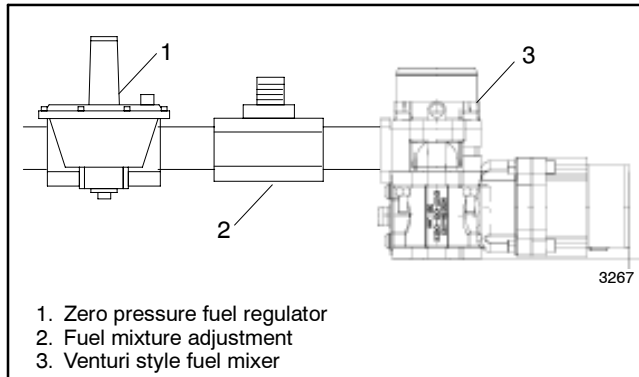
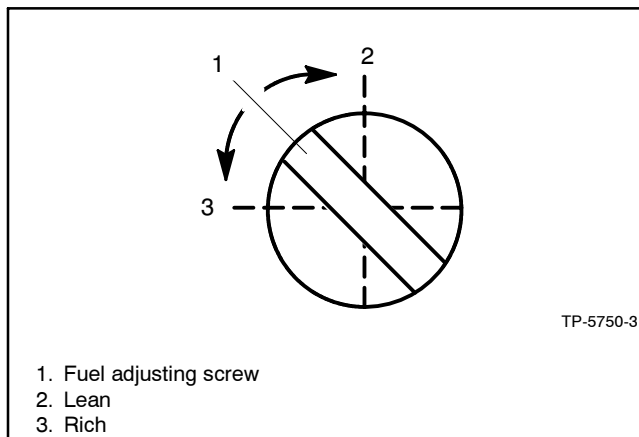
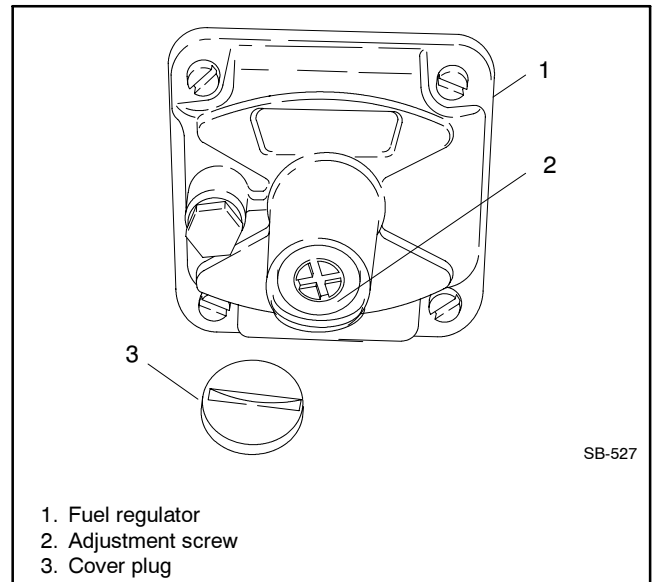

Figure 6 30-60 kW with Venturi Style Fuel Mixer
Figure 7 Fuel Mixture Adjustment, Typical
Figure 8 Fuel Regulator, Typical
- 5.1 **30-60 kW generator sets.** Venturi style fuel mixer used with an integrated throttle body governor on 4.3 L, 5.0 L, and 5.7 L GM engines. Also similar to the IMPCO model 100 used on the 30 kW with 3.0 L GM engine. See Figure 6.
- 5.1.4 Adjust the fuel mixture adjustment (see Figure 6 and Figure 7) to obtain a full-load oxygen sensor voltage reading in the range specified in Figure 2.
- 5.1.6 Adjust the zero pressure regulator (see Figure 6 and Figure 8) to obtain a no-load oxygen sensor voltage reading in the range specified in Figure 2.
- 5.2.1 Adjust the fuel regulator adjustment screw to the approximate midpoint of its adjustment range. See Figure 8.
- 5.3.1 Adjust the fuel regulator adjustment screw to the approximate midpoint of its adjustment range. See Figure 8.
5.4.2 Adjust the fuel regulator adjustment screw to the approximate midpoint of its adjustment range. See Figure 8.